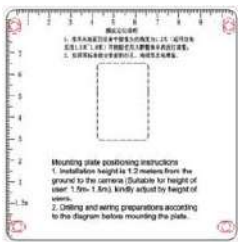

Figure 1
2.1.1 Recommended installation height is 1.2m from the ground to the camera(Suitable for height of user: 1.5m-1.8m), kindly adjust by height of user; After the installation height is confirmed, the installation positioning template is affixed to the installation location, According to the positioning template identifies drilling and fix it, The red mark is the drilling position (Figure 1);